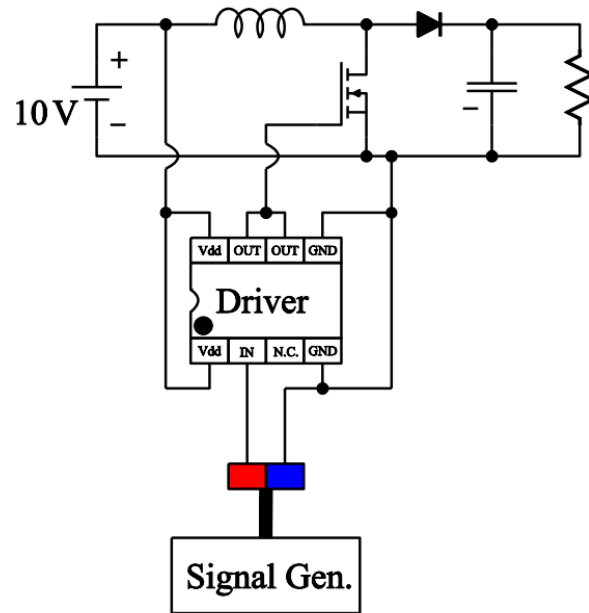

Fig. 1. Circuit diagram of a DC/DC converter (A00 from MyDAQ to Driver IN and AOGND to Driver GND)
Circuit diagram of a boost converter is shown in Fig. 1.
- Connect the output terminals “OUT” of the driver circuit together by a short jumper as in Fig. 1. Otherwise the driver circuit won’t operate correctly. Check the attached datasheet of the driver circuit for correct pin numbers.
figure(1),plot(x,y1,x,y2) //plots two curves in figure 1